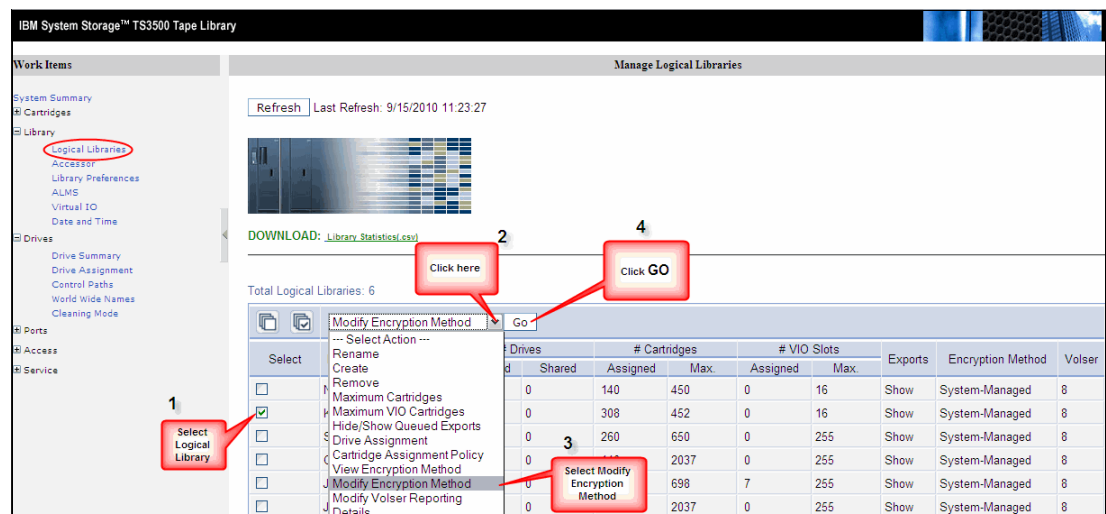

Figure 4-12 Selecting the Encryption Method
4. In the TS3500 management interface select **Library** → **Logical Libraries**, select the Logical Library you are working with, select **Modify Encryption Method**, and then click **Go**. See Figure 4-12